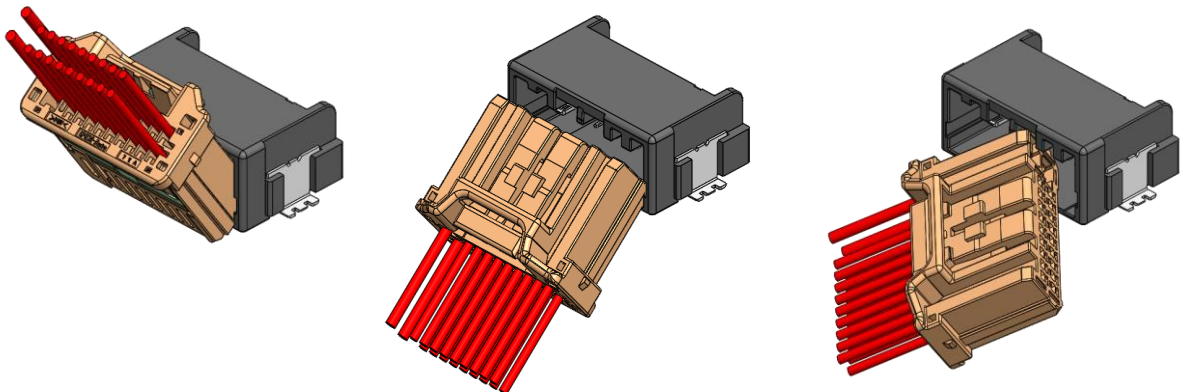

Fig 38. Mating orientations (not advisable)
- ① Only mate the connector in the direction instructed above. Do not forcefully mate in any orientation shown in Fig.38. Doing so may cause damage or deformation to connectors.
- ② If there is any damage or deformation, do not use the damaged item. Replace the item with a new one.